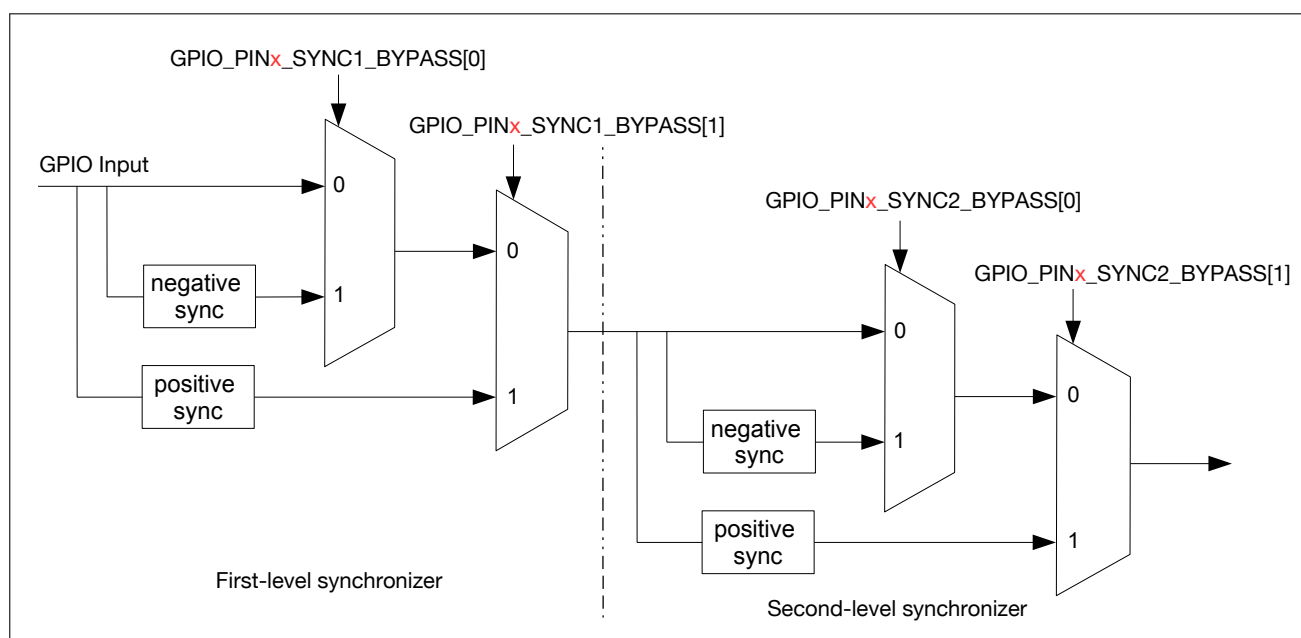

Figure 7.4-1. GPIO Input Synchronized on Rising Edge or on Falling Edge of IO MUX Operating Clock
Figure 7.4-1 shows the functionality of GPIO SYNC. In the figure, negative sync and positive sync mean GPIO input is synchronized on falling edge and on rising edge of IO MUX operating clock respectively.
The synchronization function is disabled by default by the synchronizer, i.e., `GPIO_PINx_SYNC1/2_BYPASS[1:0] = 0`. But when an asynchronous peripheral signal is connected to the pin, the signal should be synchronized by the two-level synchronizer (i.e., the first-level synchronizer and the second-level synchronizer as shown in Figure 7.4-1) to lower the probability of causing metastability. For more information, see Step 4 in the following section.
- Set `GPIO_PINx_SYNC1_BYPASS` to enable input signal synchronized on rising edge or on falling edge in the first-level synchronization, see Figure 7.4-1.
- Set `GPIO_PINx_SYNC2_BYPASS` to enable input signal synchronized on rising edge or on falling edge in the second-level synchronization, see Figure 7.4-1.